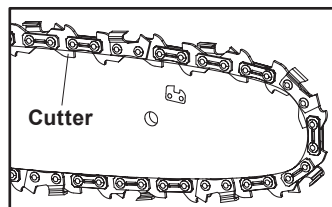

Fig. 9
4. Spread the saw chain (15) out with the cutting edges of the chain pointing in the direction of rotation.
Slide the saw chain (15) into the groove around the guide bar (14). Ensure saw chain (15) is installed in correct direction of rotation (Fig. 9).